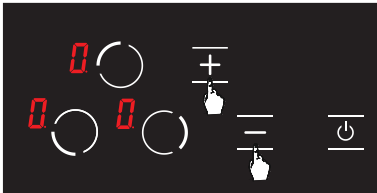

Figure 16
2. Using the **+** and **-** keys, bring the temperature on all hobs to **0**. (see Fig. 16) Stove shall be turned off by itself after 20 seconds.